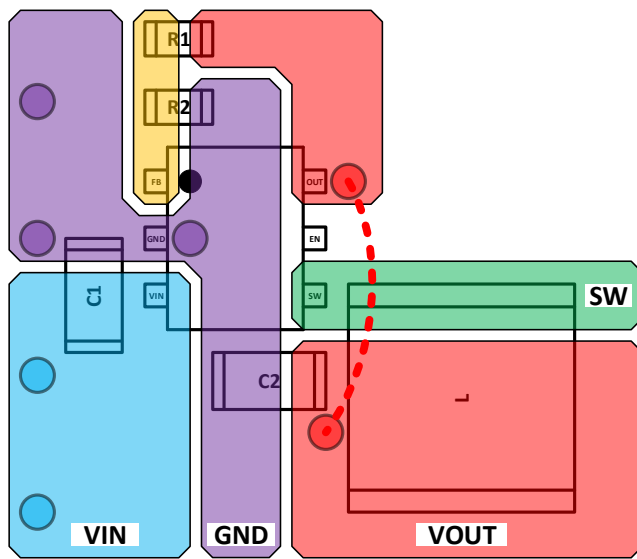

Figure 42. Recommended AP61200/AP61201 PCB Layout
9. See Figure 42 and Figure 43 for more details.